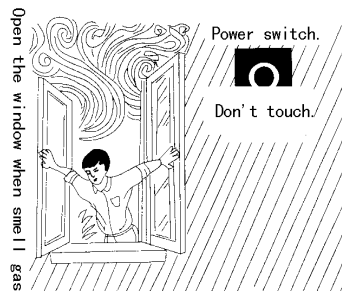

Fig. 12
- Always check all the gas pipe connections with soapsuds to see whether it has gas leakage. In case of gas leakage, shut off the gas supply and open the windows immediately. Under such condition, ignition, switching on/off the electric power supply are strictly prohibited to avoid an explosion and fire. (Fig.12)